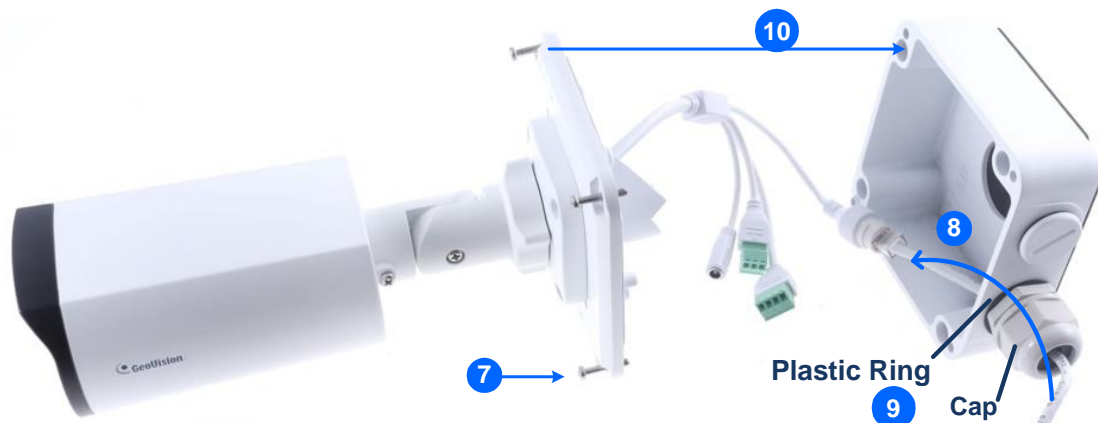

Figure 1-61
- Reattach the box cover to the power box, as shown in No. 7, *Figure 1-61*.
- Thread the Ethernet cable through the PG21 conduit connector and the power box as shown in No 8, *Figure 1-61*. Then connect the cable to the camera. To waterproof the cable, see 1.8 *Waterproofing the Cable*.
- Rotate the plastic ring to secure the conduit connector to the power box. Secure in the cap, as shown in No 9, *Figure 1-61*
- Secure the box cover to the power box, as shown in No 10, *Figure 1-61*.
7. Thread the Ethernet cable through the center hole (proceed to Step 9) or through the PG21 conduit connector and the power box as shown in No 8, *Figure 1-61* (proceed to Step 8).
8. Rotate the plastic ring to secure the conduit connector to the power box. Secure in the cap, as shown in No 9, *Figure 1-61*.